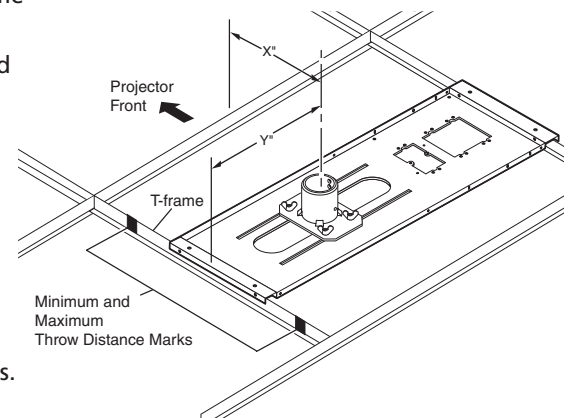

Figure 2. Minimum and Maximum Throw Distances
- Remove the predetermined ceiling tile and mark the maximum and minimum throw distances of the projector on the T-frame (see figure 2).
- e. Measure the distances X and Y (see figure 2) from the inner vertical section of the front and left T-frame runners to the center of the Pipe Adapter Plate.